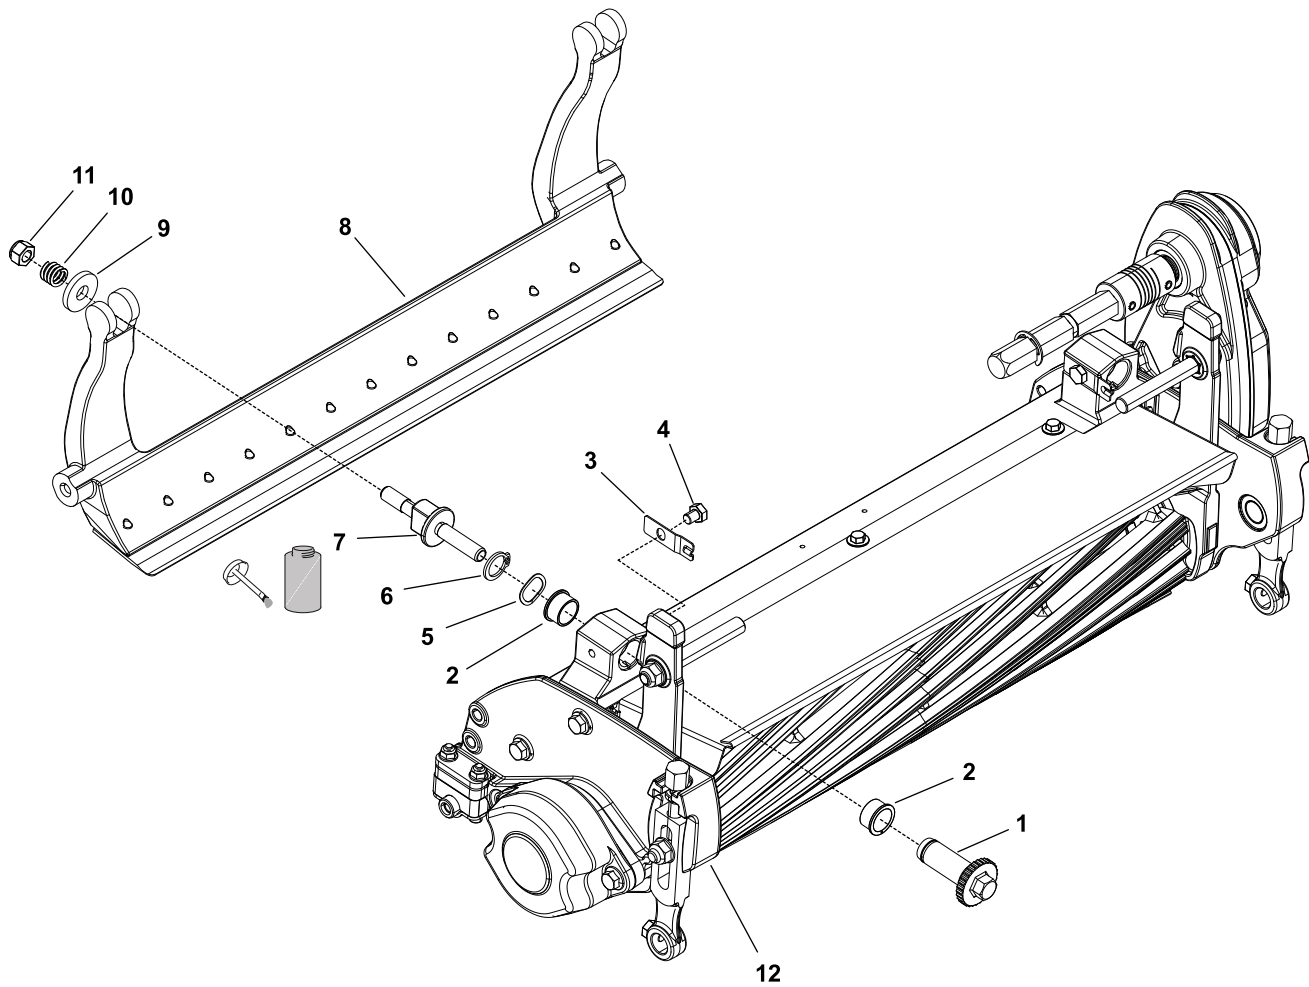

Figure 98
Note: Refer to Figure 98 during this procedure.
9. Tighten the nut (item 11 in Figure 98) on each bedbar adjuster screw (7) until the adjuster spring (10) is fully compressed, then loosen the nut (11) to 1/2 turn.